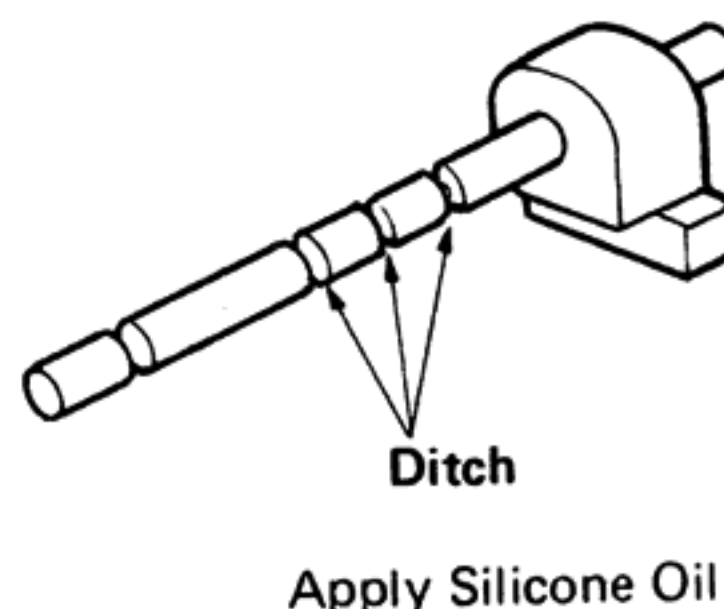

Fig. 4
- 4) Pull the lift bar ass'y out and wipe off any silicone oil, then fill the sufficiently silicone oil at the ditch as illustrated in "Fig. 4."